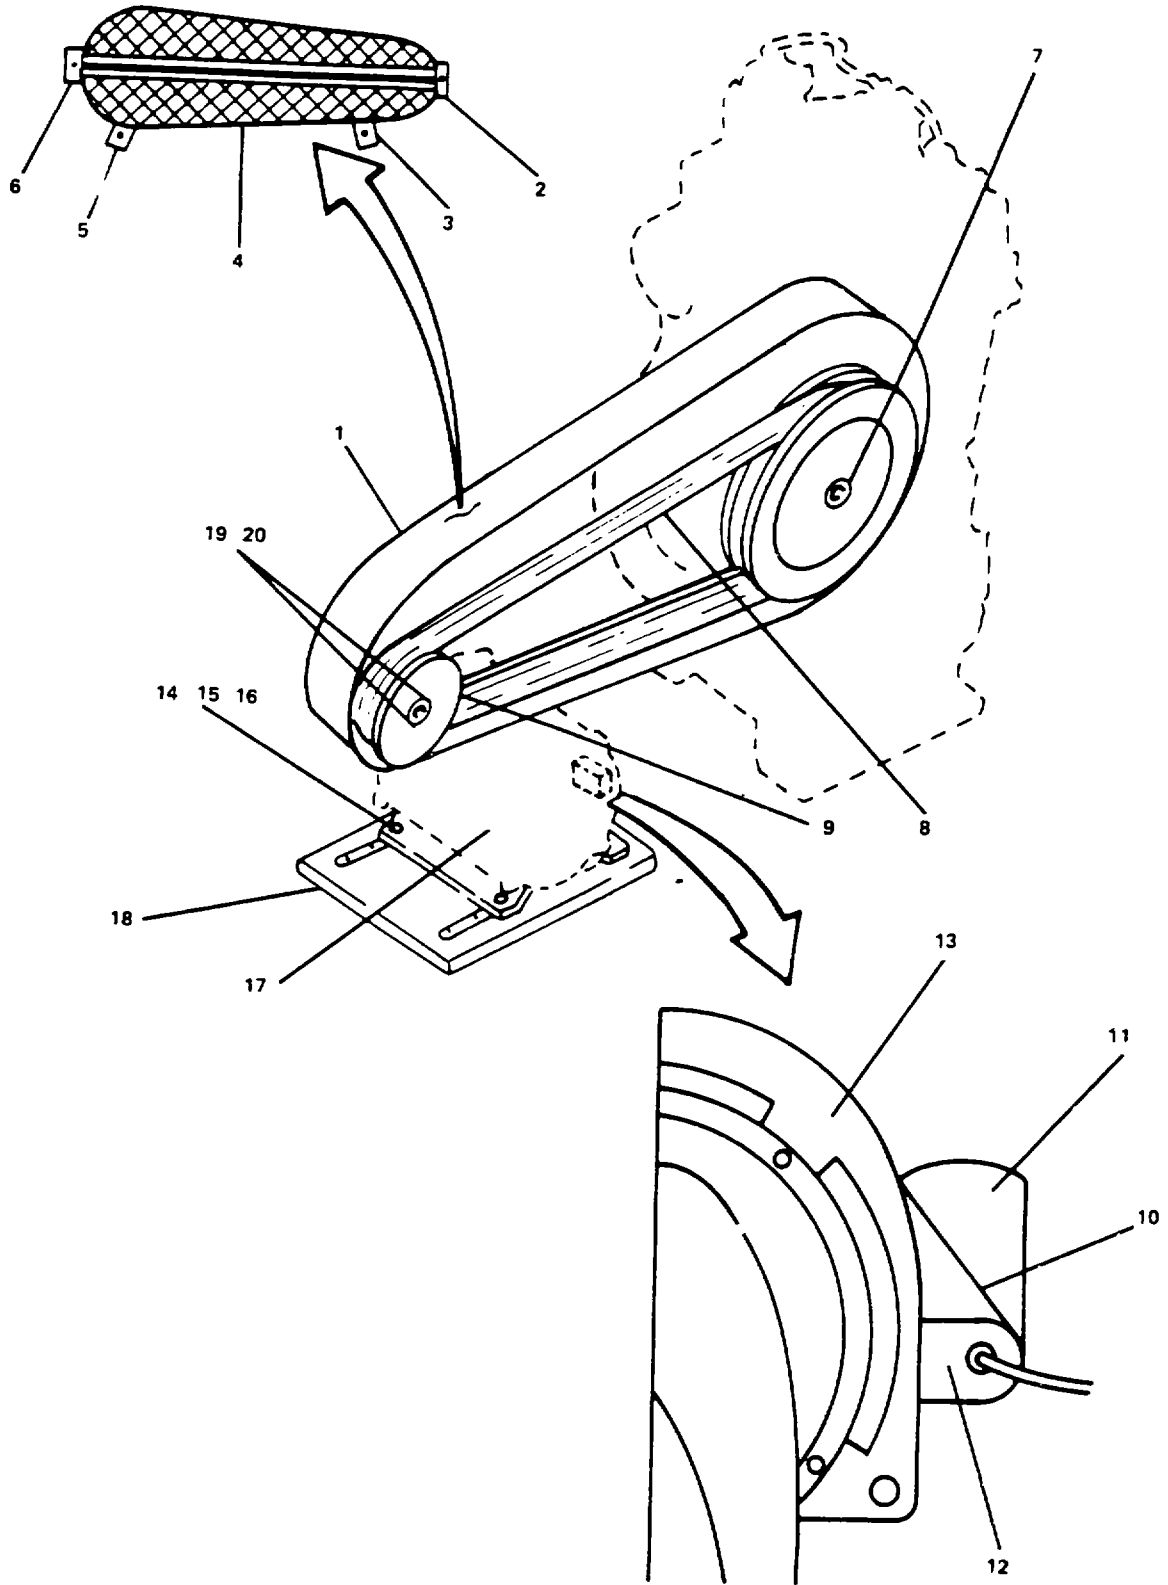

Figure 2-139. Motor Assembly.
a. Remove belt guard (1, Figure 2-139) as follows:
(1) Remove bolts, nuts and washers (2, 6) and remove upper half of guard (4).
(2) Remove bolts and washers (3, 5) and remove bottom half of guard (4).
b. Remove screws (10) holding electrical junction cover (11). Remove cover.
d. Remove four motor mounting bolts (14), nuts (15), and washers (16).
e. Slide motor (17) toward compressor drive sheave (7) and remove vee belts (8).
f. Remove motor (17) from motor mounting rail (18).
g. Remove two bolts (19) and washers (20) and remove pulley (9) from motor shaft.
g. Tighten the four motor mounting bolts (14, Figure 2-139) and nuts (15) firmly.
i. Install electrical junction box cover (11) with screws (10). Tighten screws.
j. Install belt guard (1) as follows:
(1) Mount lower half of guard (4) with bolts and washers (3, 5). Do not tighten bolts until guard is adjusted.
(2) Install upper half of guard (4) with bolts, nuts, and washers (2, 6).
(3) Adjust the guard by sliding it up or down as required to keep it clear of belts and pulleys. Tighten bolts and washers (3, 5) firmly.